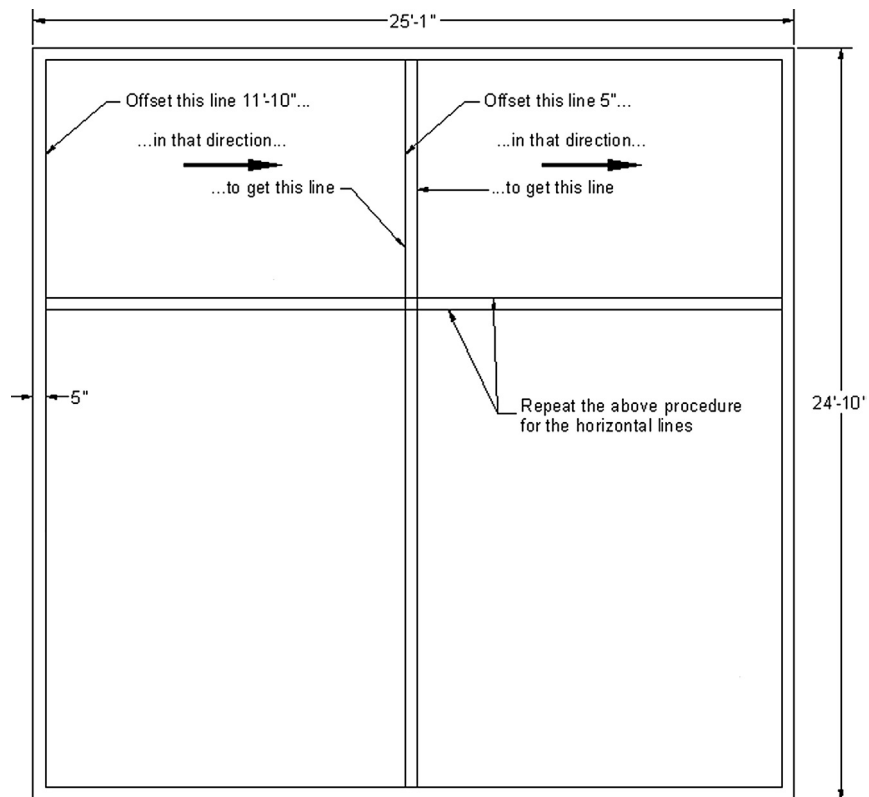

FIGURE 3.15
8. Offset the inner left vertical wall 11'–10" to the right to create part of the kitchen wall. Then, right away, offset 5" for the thickness of the wall. Repeat with the inner top horizontal wall (offset 7'–10") to get the lower part of the kitchen. Offset 5" below that line for thickness. Figure 3.15 illustrates this. Note that, along the way, you will run into fractional lengths to offset (11'–8½" for example). One way to enter fractions is to simply type in a decimal equivalent (11'8.5 in this case).